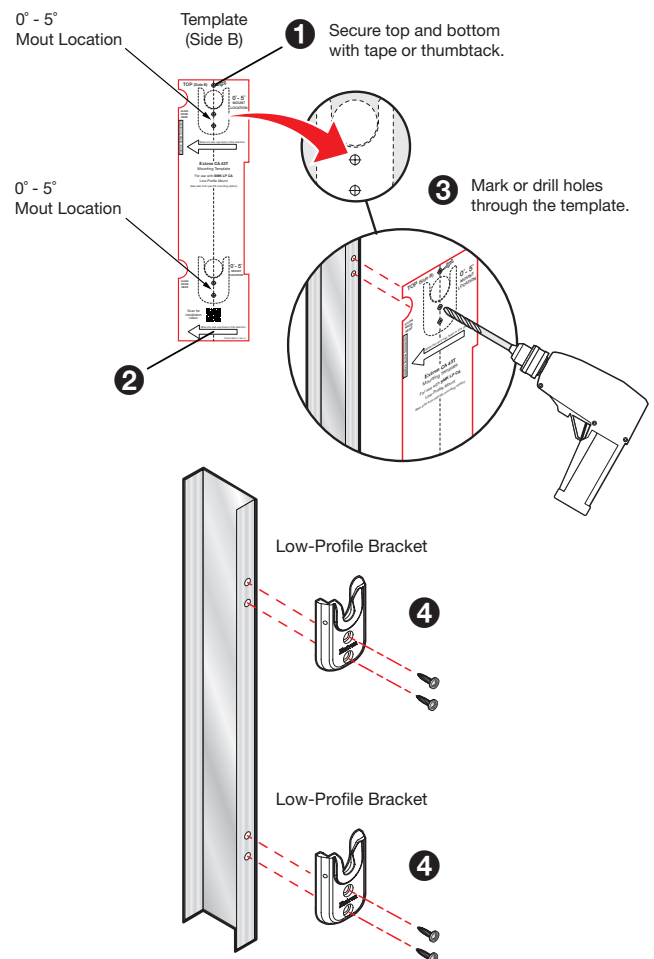

Figure 4. Installing the SMK LP CA Low-Profile Brackets
1. Position the included CA 43T mounting template, side B (see figure 4) to the wall where you want to mount the speaker. Use a pushpin or piece of tape to secure the top end of the template to the wall (1). Ensure the template is level, then secure the bottom end with an additional pushpin or piece of tape (2).
2. Mark four screw locations or drill four pilot holes through the template (3), for four screws (not included) to secure two Low-Profile Brackets to the wall.
6. Use appropriate hardware to securely attach the low-profile brackets to the wall (4) (example – using #14 x 1 3/4" self-tapping wood or metal screws and 1/4" SAE washers).